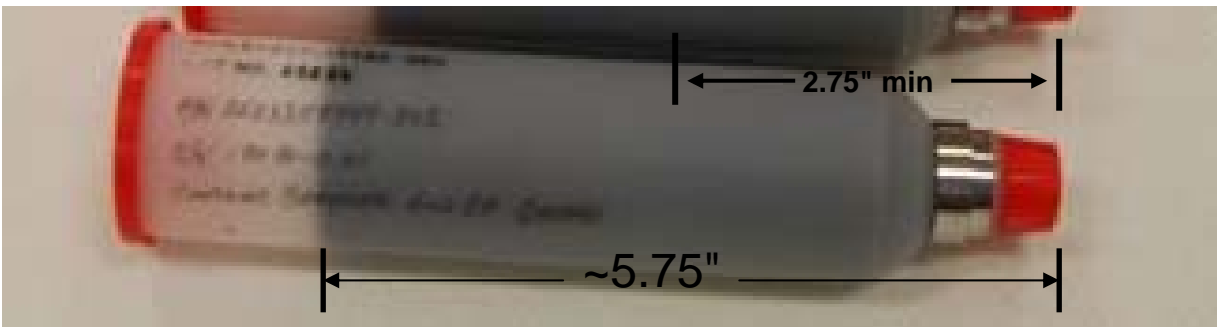

Figure 1.- Grease Gun Measurement (Full Cartridge shown).
2. Measure grease in a cartridge. Minimum of 2.75" of grease needed. [Measured from red tip cap to end of grease]. Refer to figure 1 for measurement location